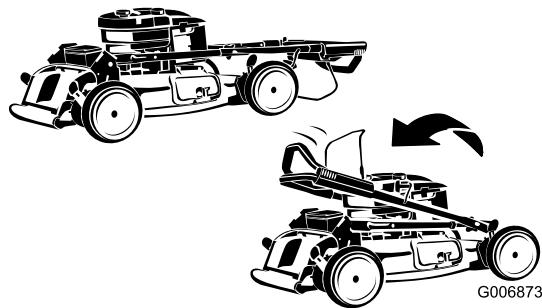

Figure 31
2. Fold the upper handle forward as shown in Figure 31.